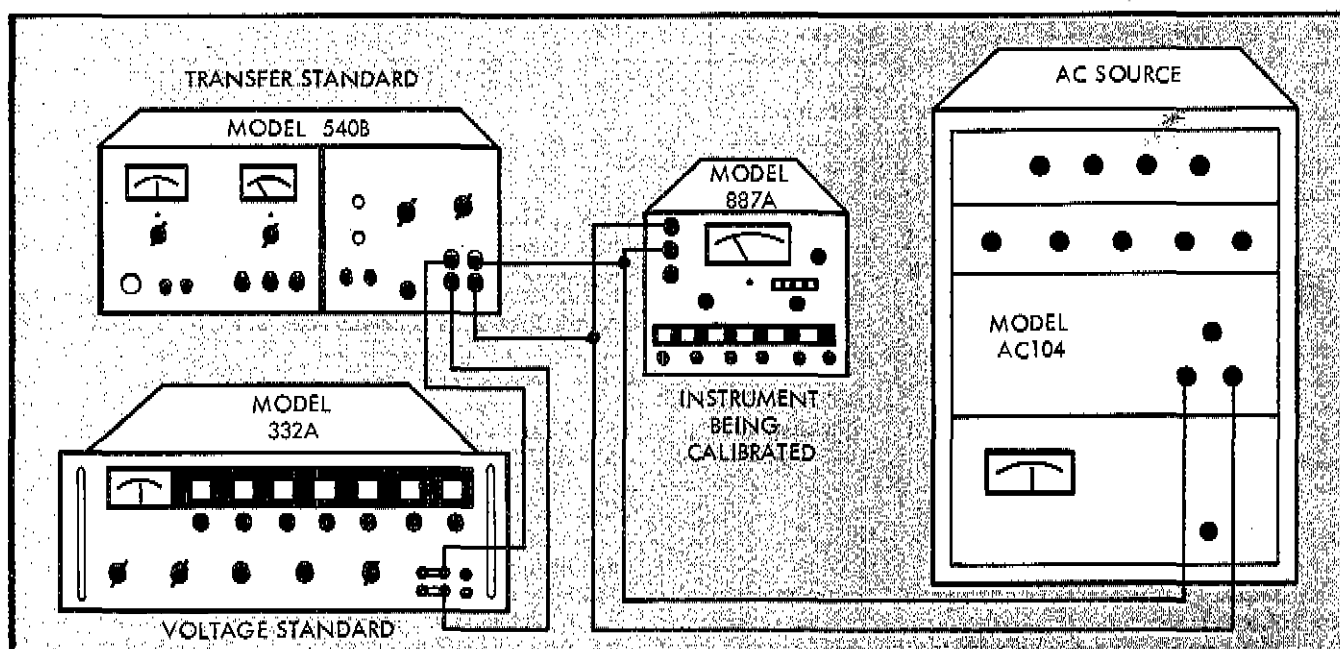

Figure 4-6. EQUIPMENT CONNECTIONS FOR AC CALIBRATION
a. Connect equipment as shown in Figure 4-6 and adjust the equipment to provide 1, 10, 100, and 1000 volts ac rms at 10 kHz such that the average value has an accuracy of 0.02% as instructed in paragraph 4-45.